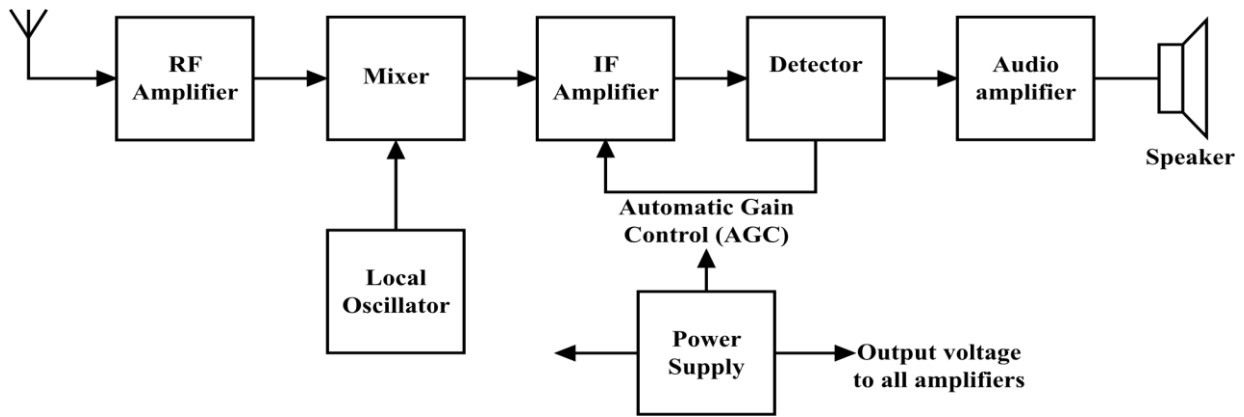

Figure 1. Block diagram of an AM superheterodyne receiver
- (b) Figure 1 shows a block diagram of an AM superheterodyne receiver.